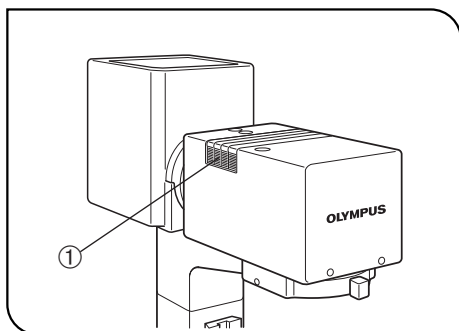

Fig. 29
(Figs. 29 to 31)
1. Place a finger on the milled section ① of the filter holder and lift it. (Fig. 29)